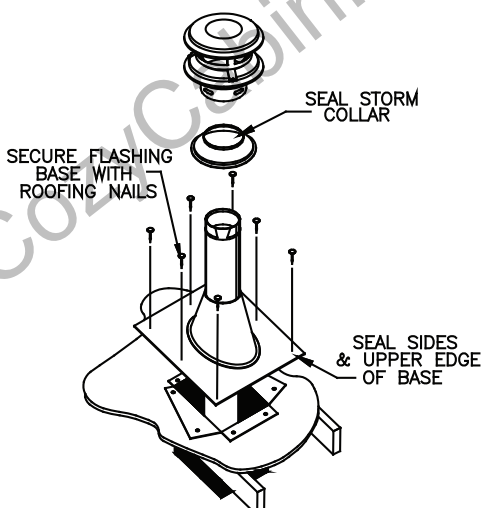

Figure 34
11. Slip Roof Flashing over the supported Pipe Section(s) protruding through the roof. Apply sealant to underside of Roof Flashing along upper edge and sides. Secure the base of Roof Flashing to the roof with roofing nails (Figure 34). Ensure that the roofing material overlaps the top edge of the Roof Flashing.